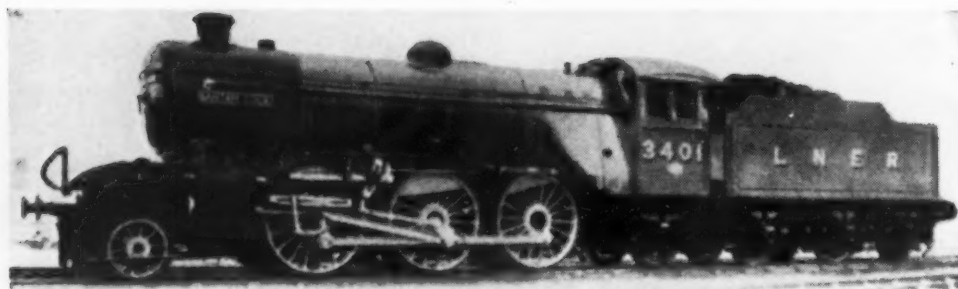

FIG. 10 2-6-2 FOR LONDON &amp; NORTHEASTERN
Table 4 gives principal data for a group of foreign steam locomotives with some item of unusual interest connected with each. The L.&N.E. Railway has a well-standardized class of heavy 2-6-2's (*Lord President* class) giving notable results but unable to move over a considerable mileage of branch-line railway acquired in the "railway grouping" of five years ago. To meet the need for modern power of weight light enough to cover the greater part of the mileage, a lighter 2-6-2 is being built (Fig. 10, and item 1 of Table 4). The three-cylinder type persists in England; also note item 2; new passenger Pacifics